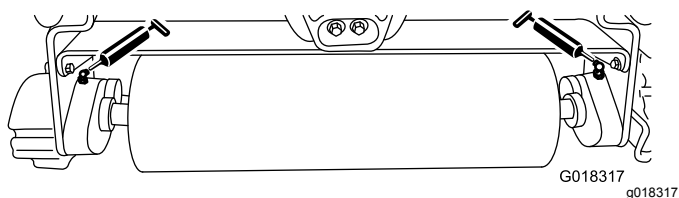

Figure 6
Lubricate the 2 grease fittings (Figure 6) on each tri-roller unit after every 15 hours of operation, with No. 2 lithium grease. Use a hand-operated grease gun for best results.
2. Apply grease to the tri-roller shaft bearings until you feel pressure (Figure 6).